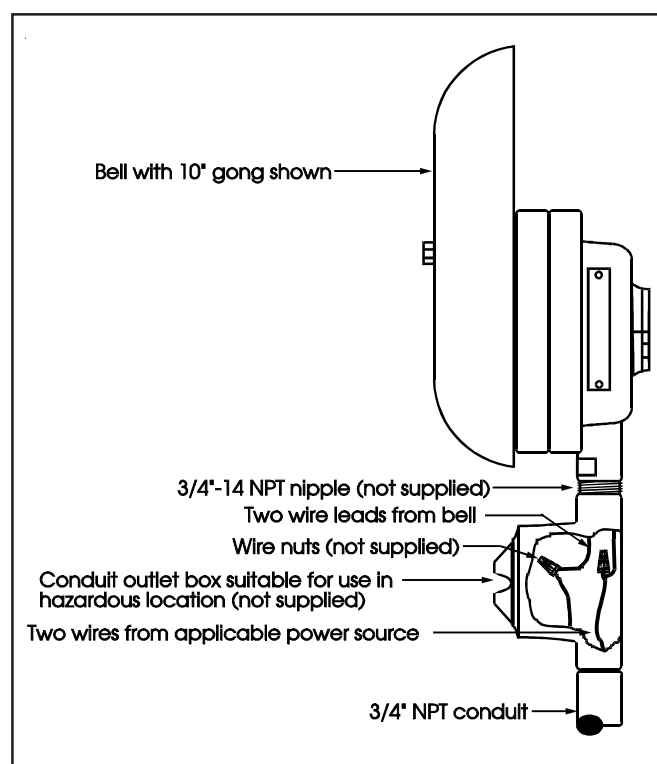

Figure 1. Installation Wiring
1. See Figure 1. Remove cover from conduit outlet box. Feed the two wires from the applicable power source